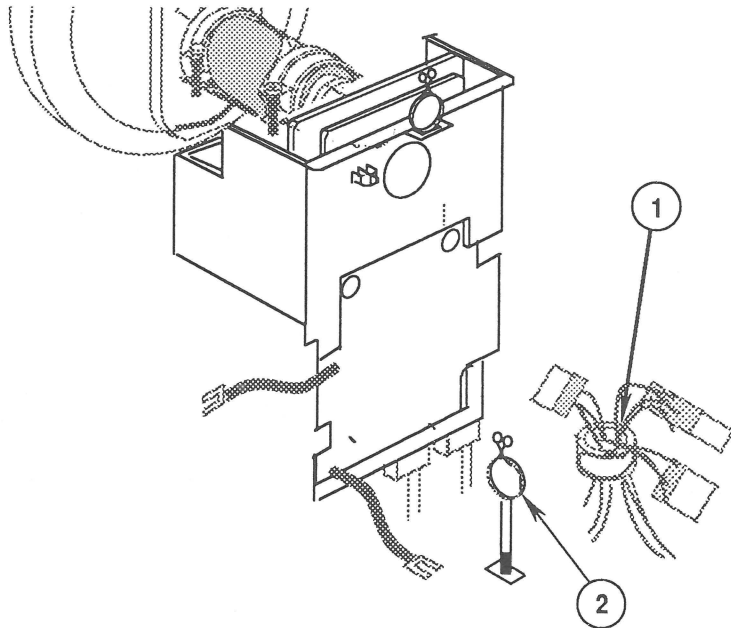

FIGURE 28
8. Remove the cables and the ferrite ring (Figure 28, #1) from the cable clamp (Figure 28, #2) that is positioned beneath the CRT board.